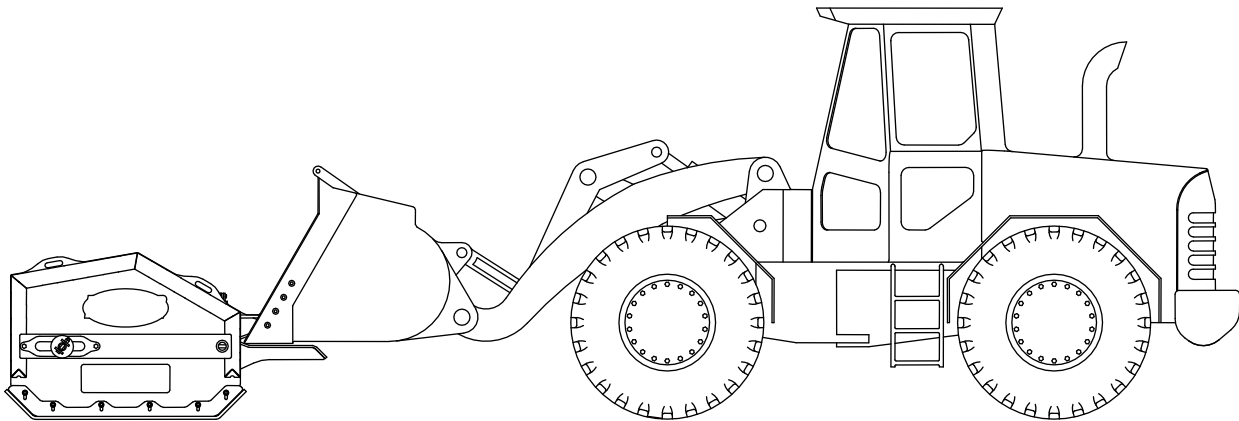

Figure 1. Proper Plowing Orientation
- Maintain bucket and hitch orientation shown in Figure 1. Wing positions will vary with terrain. Starting with the slip hitch in the middle of the slot will allow the plow to float and better follow the contours of the ground.